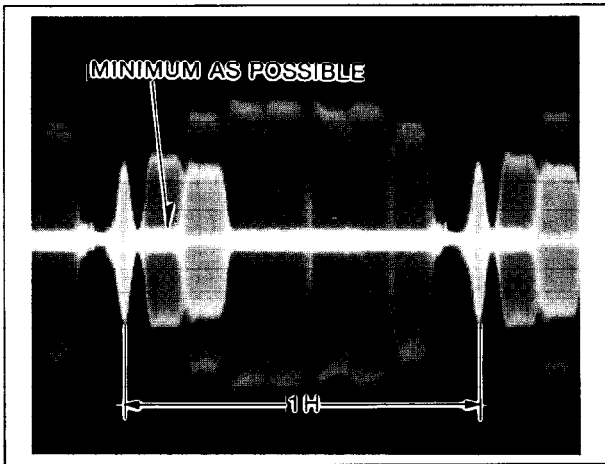

Fig. E27
4. Adjust VR9005 and VR9006 mutually so that the signal of white portion to be minimized as shown in Fig.E27.